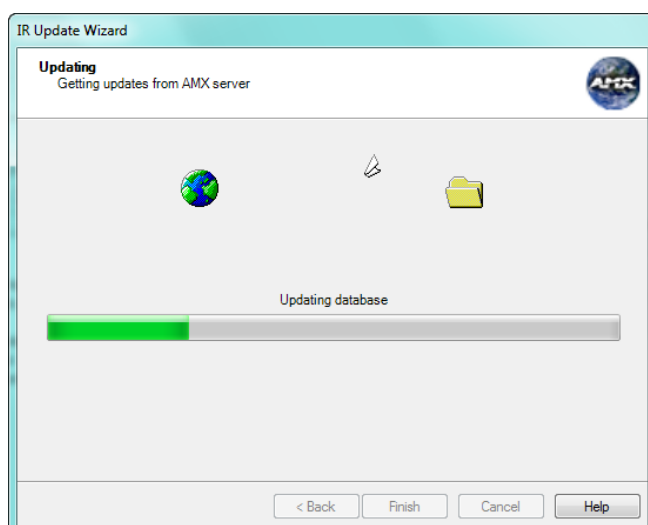

FIG. 39 IR Update Wizard - Updating dialog
3. Click **Next** to proceed to the *Updating* dialog (FIG. 39):